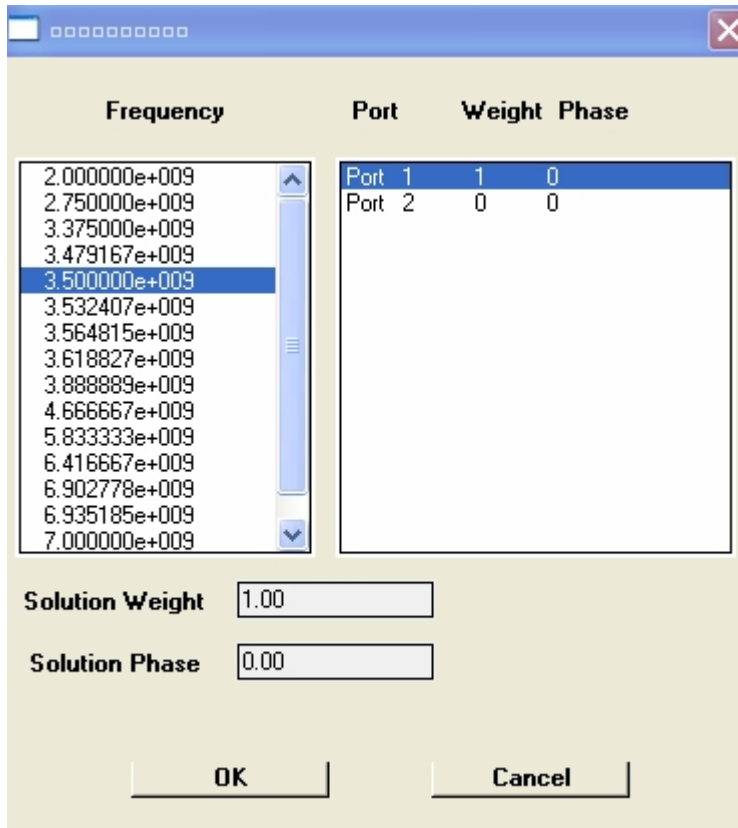

Figure 14. Port solution weights used to generate the plot of the electric current density.
- b) From the visualization window, select Current>Set Port Solution Weights from the menu near the top of the window. Verify that the default settings are as shown in Figure 14. (The port solution weight should be 1 at Port 1 at fc GHz, specifying that the excitation should be applied only at this port and at this frequency.)